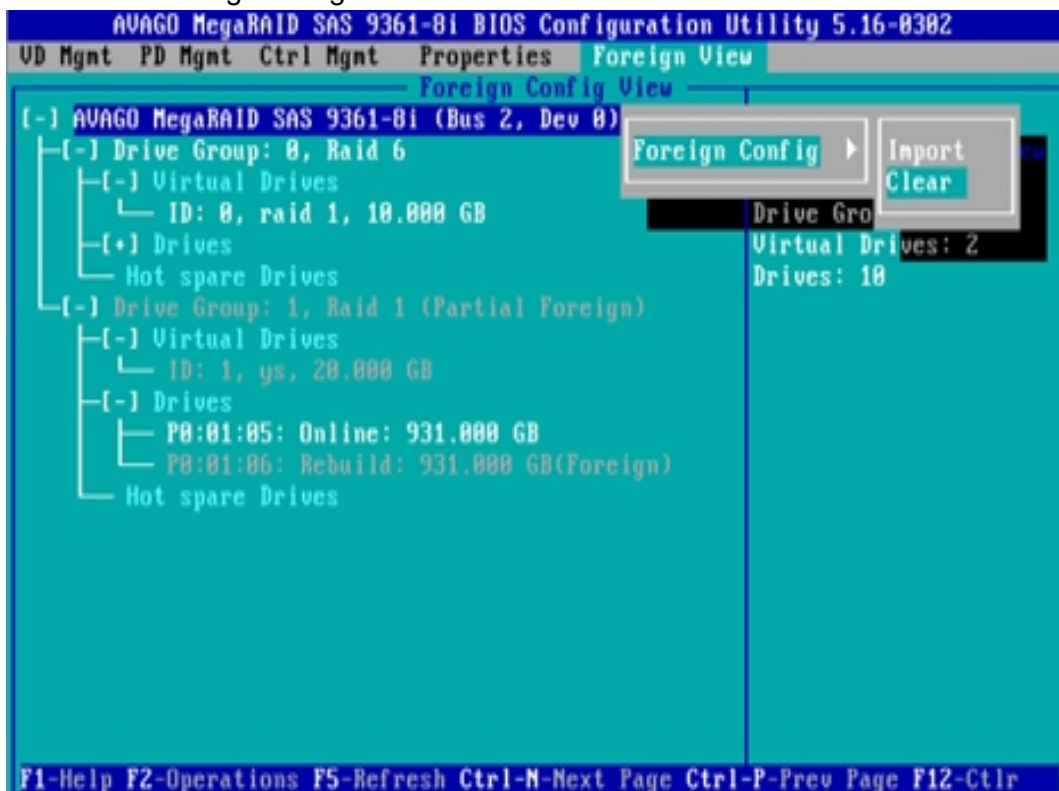

Figure 6-132
b) As shown in figure 6-132, in the foreign view interface, select raid card, press F2, select foreign config > clear, and press enter.
✧ Figure 6-132 select foreign config > clear